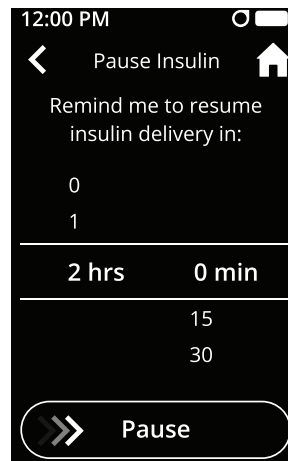

Figure 107
- c. Select a time to be reminded to resume insulin after pausing insulin (see Figure 107).